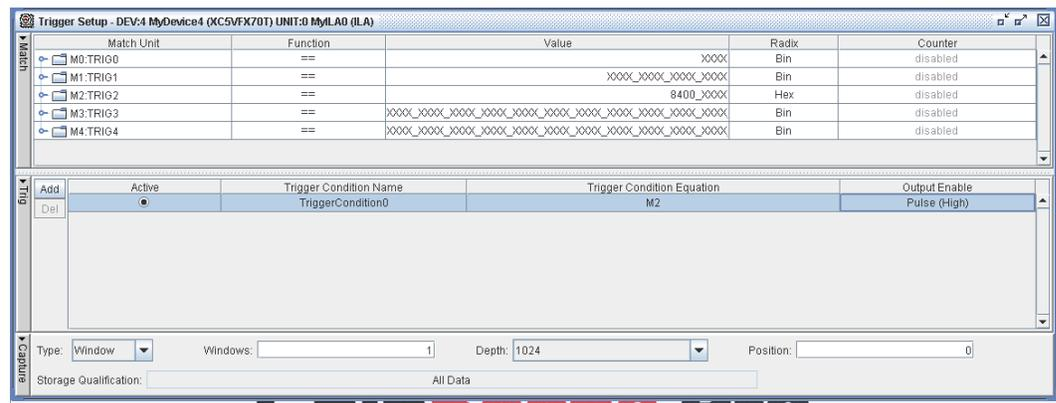

Figure 9-7: ChipScope Trigger and Match Units
6. Set up the trigger and match units, as shown in Figure 9-7.